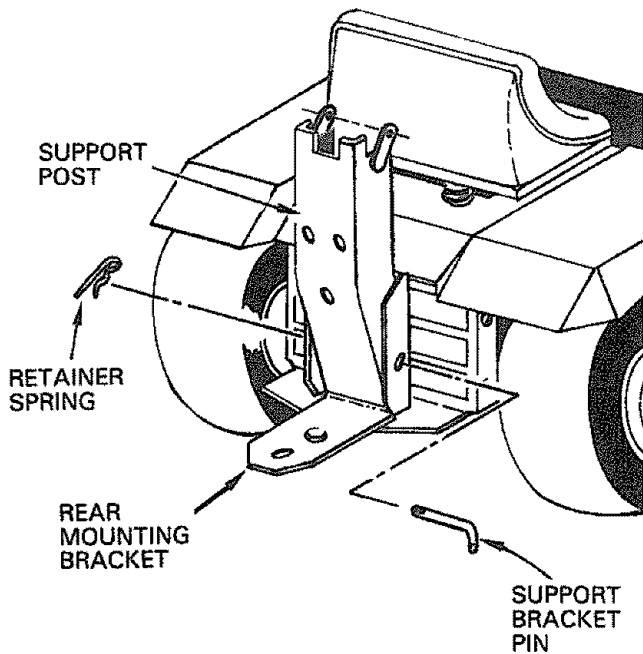

FIGURE 10
5. Assemble the support post to the rear mounting bracket (Fig. 10) using support bracket pin and retainer spring. Retainer spring shown full size below. Support post, latch pin and retainer spring furnished with bagger.